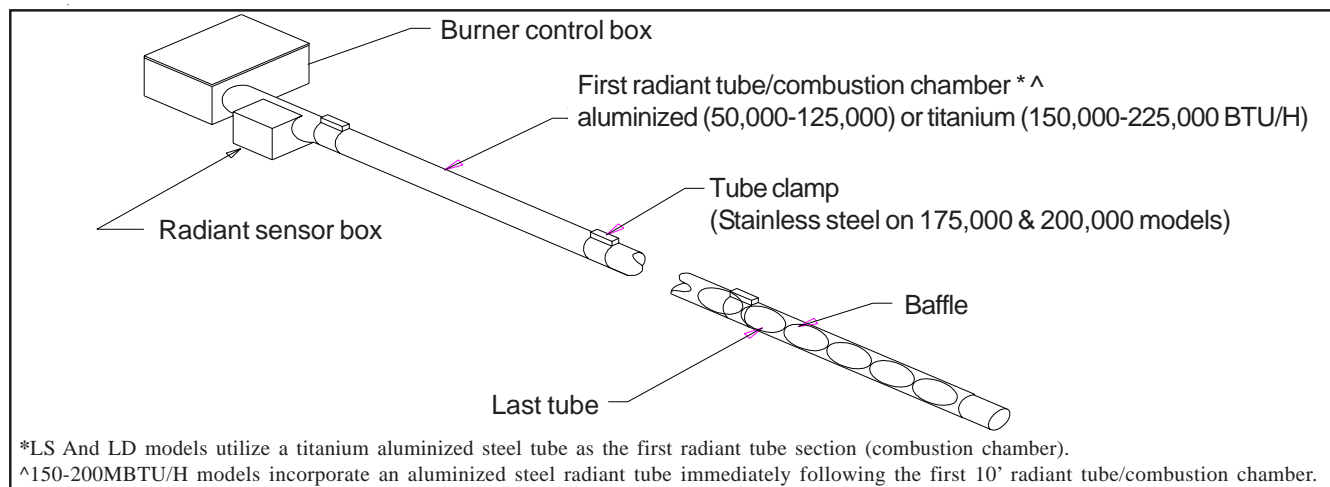

Fig. 2-10
8. Installation of baffles. Baffle(s) should be assembled and then placed in the tube(s) farthest downstream from the burner. In some cases the baffles may have to be slid partially into the second from last tube. All baffles must be in the vertical position. See figure 2-10 and instructions on page 14 for assembly.
**IMPORTANT:** Baffles must be installed in the last (furthest from the burner) radiant tubes. See figure 2-10 and details on page 14. All baffles must be in the vertical position.